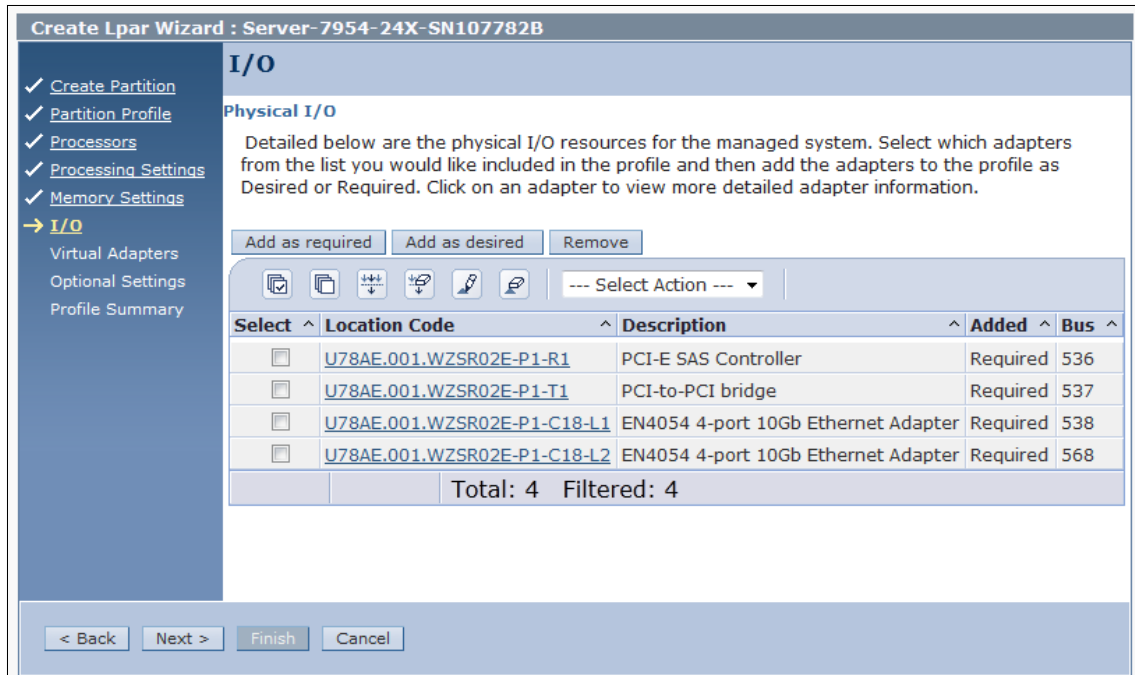

Figure 8-33 HMC I/O assignment window updated
- The I/O window is refreshed (as shown in Figure 8-33 on page 383) with the Added column in the table updated to reflect the Required or Desired state. Click **Next** to continue to the Virtual Adapters window.